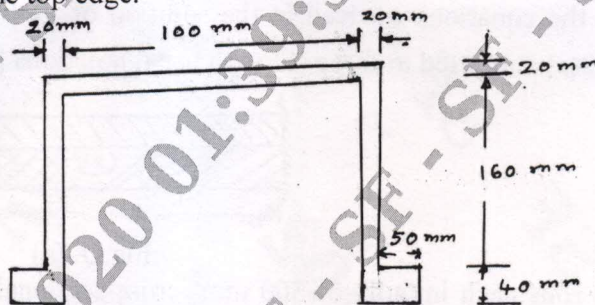

Fig.Q5(b)
b. A cast iron beam section is shown in Fig.Q5(b). The tensile stress at the bottom edge is 20 N/mm^2 when it is subjected to a bending moment. Determine (i) the value of B.M. and (ii) value of stress at the top edge. (14 Marks)